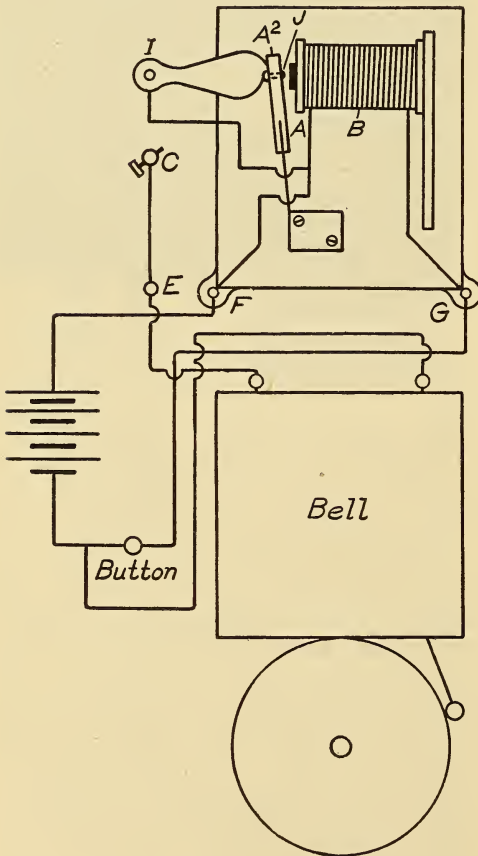

FIG. 1. CONNECTIONS OF ELECTRIC ALARM.
move the clapper from the armature, it being mounted at the point (A²) Fig. 1. Then remove the contact and the contact spring from the armature, leaving the armature as shown in diagram at (A).